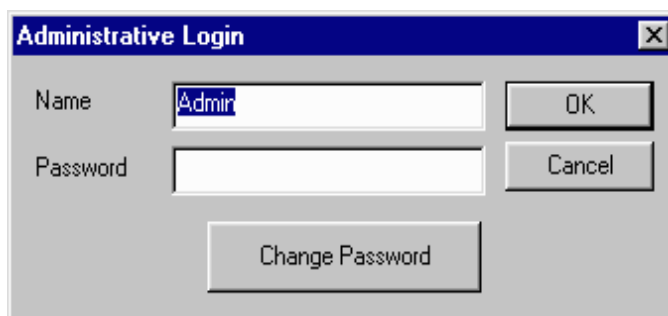

Figure 12 *Administrative Login Screen*
4. At the **Administrative Login** window, type `Admin` in the **Password** text box. Then click **OK**. Note that the name and password are case sensitive. See Figure 12.